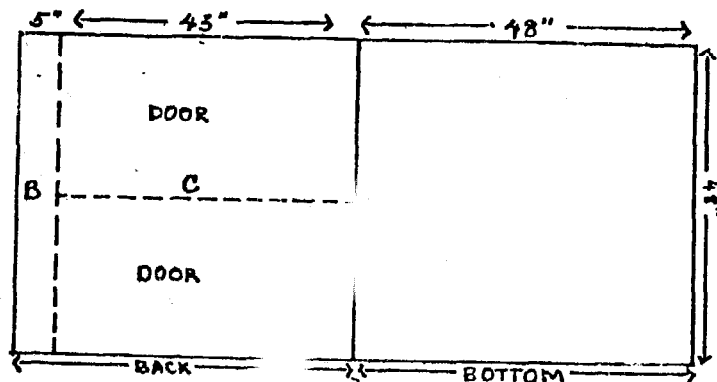

Figure 4
- 4 : DOORS, VENT AND BACK:** Mark off 48" on the plywood, square off and cut. (See "A", Figure 4). Then mark a 5" strip along one end of one square piece and saw off. (See "B", Figure 4). Then divide the remaining 48" x 43" piece in half so each piece is 24" x 43". These are the doors. (See "C", Figure 4)